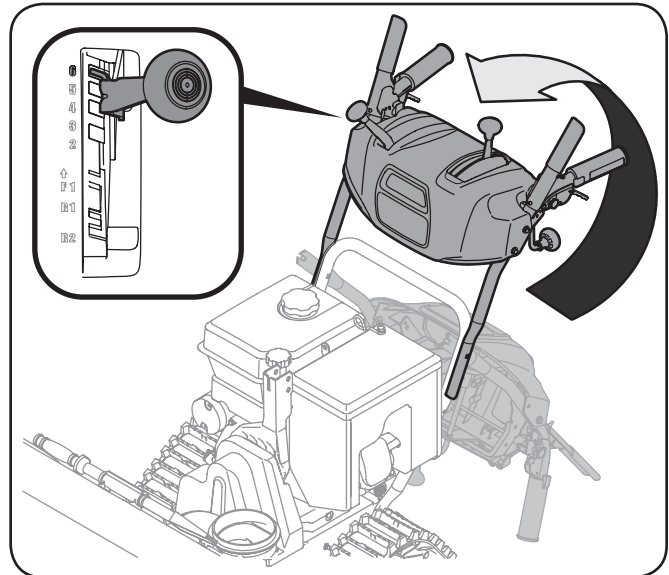

Figure 3-2
4. Remove rubber bands securing cables to carriage screws and cut zip tie securing shift rod to lower handle. Carefully pivot the handle upward. See Figure 3-2.